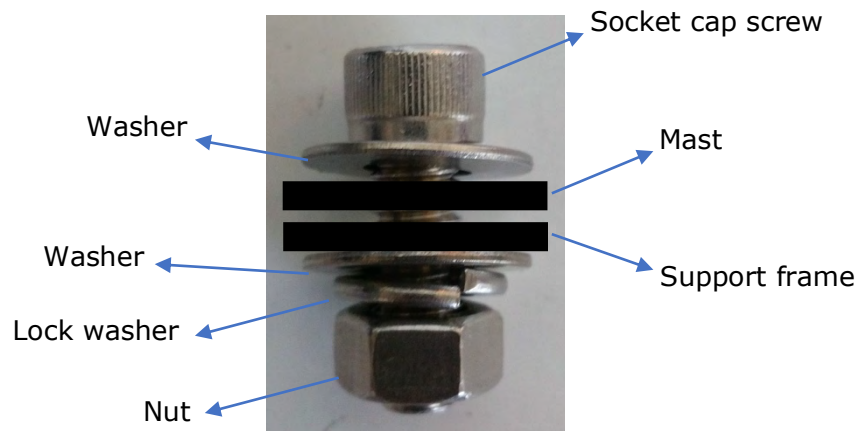

Figure 17: components for the installation of the mast on the support frames
- Install the mast (the long black steel bar) perpendicular to the two support frames passing by their middle. Fix it to the two frames using eight socket cap screws, and relative nuts and washers (each screw needs one nut, one washer, one lock washer and one bolt; Figure 17). Make sure that the mast side tagged with "F" ("Front") is oriented in the direction of the bow.